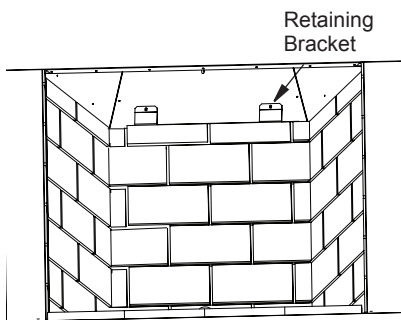

Figure 24 - Installing Rear Wall
4. Install the rear firebrick wall last. Place the wall face side down on the hearth with the bottom of the wall toward the rear of the firebox and the top toward the front of the fireplace. Tilt the wall up toward the back of the firebox. Secure with 2 rear retaining brackets provided (Figure 24).